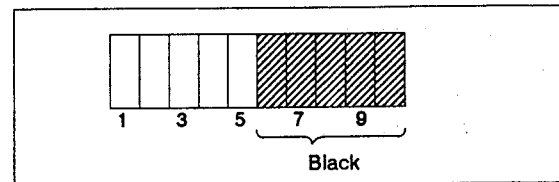

Fig. 38
2. Adjust R3459 (Sub bright) to achieve waveform as shown in Fig. 38.